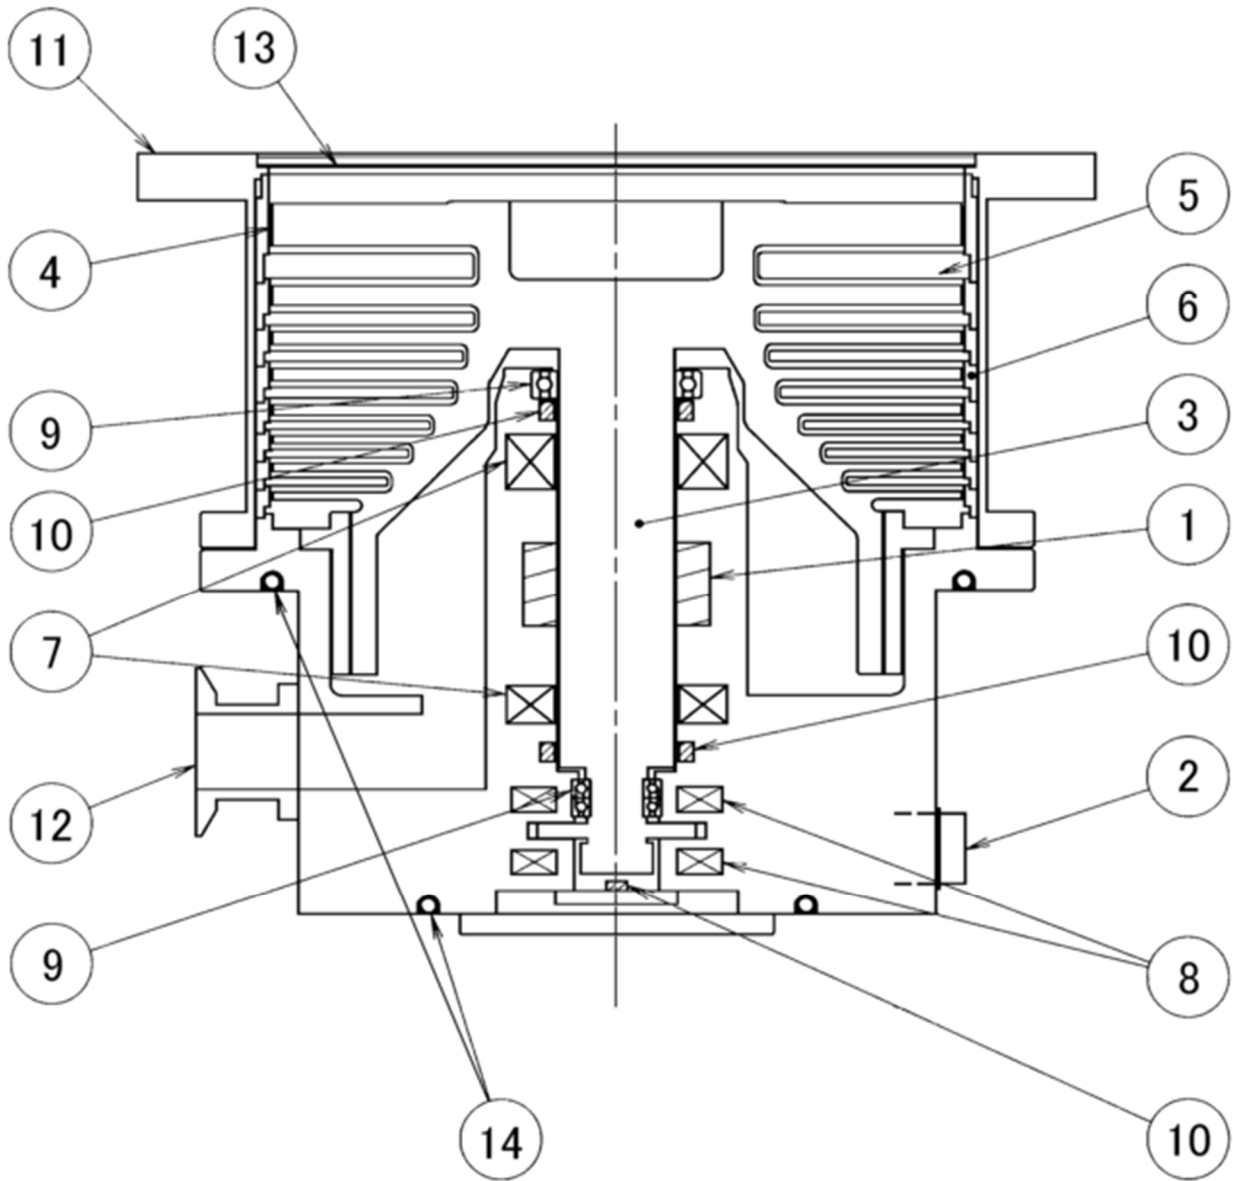
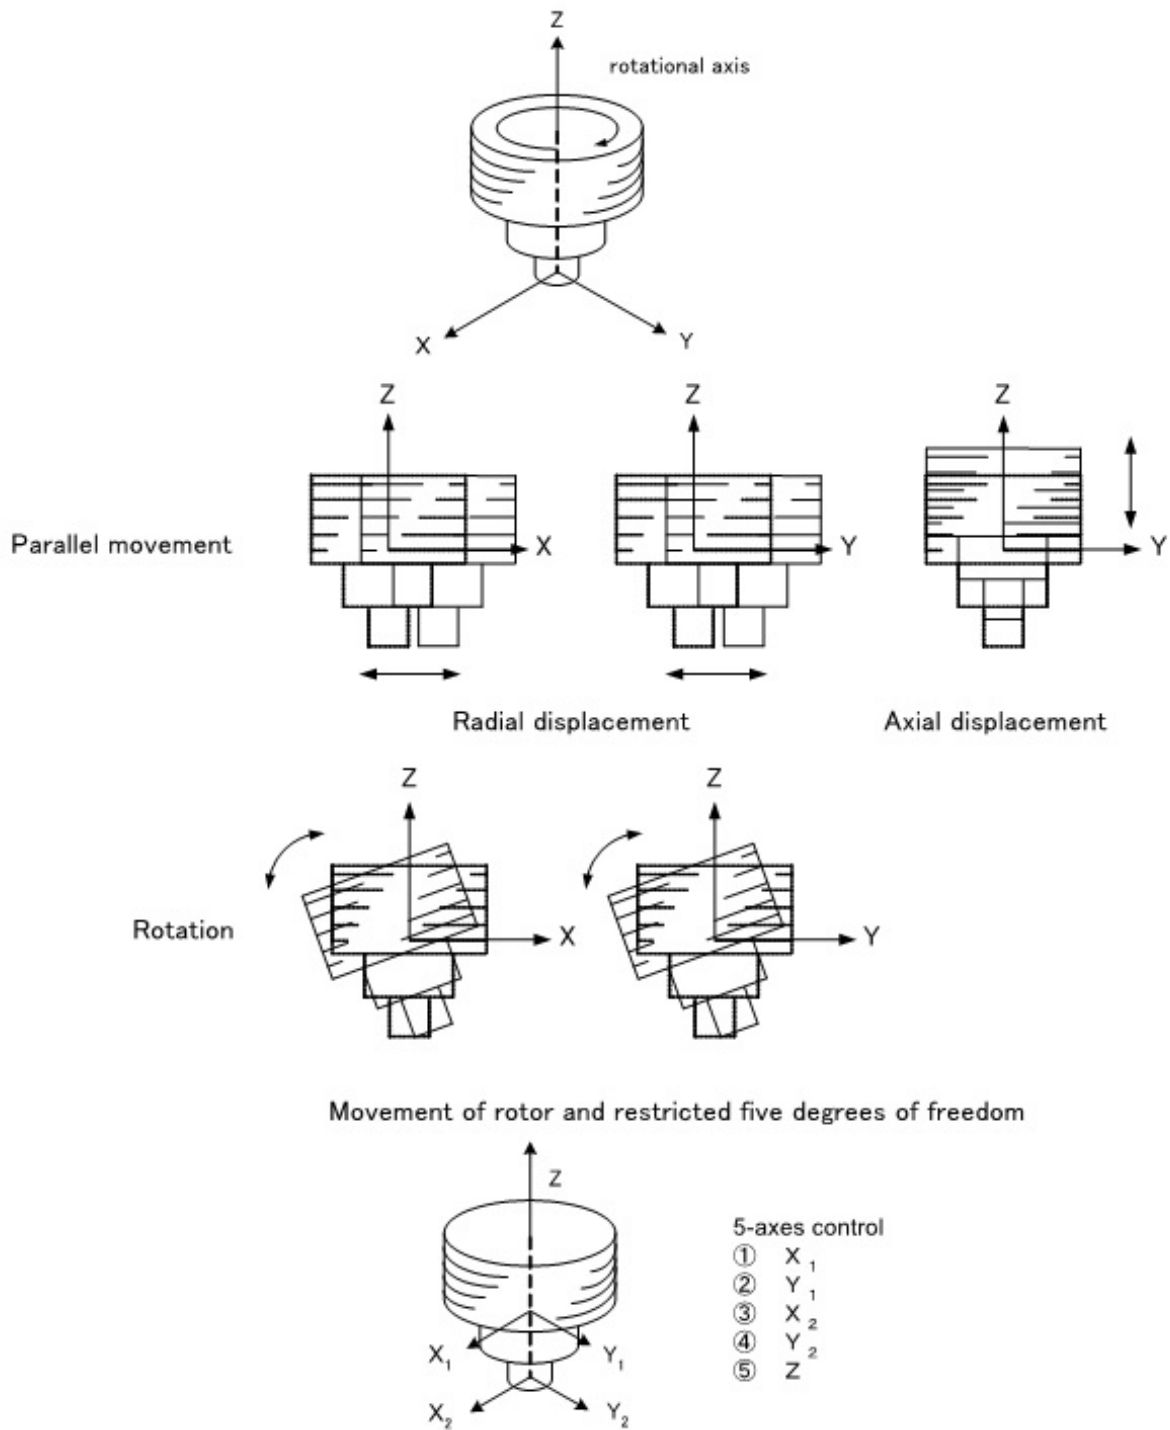

Fig. 3-1 Pump Sectional Drawing
Fig. 3-2 Outline of 5-Axes Control
Fig. 3-1 is a sectional drawing of UTM-MS series magnetic bearing type turbo molecular pump. The built-in high frequency motor (1) is accelerated to the specified revolutions (speed) by the high frequency controller. Rotor blades (4) are fitted onto the drive shaft (3) and the stator blades (5) are arranged in between the rotor blades. A positioning spacer (6) is inserted between the stator blades. The configurations and profiles of the stator blades and rotor blades are designed for high efficiencies in various applications. The upper stages of the rotor blade and stator blade configurations are ideally designed for high gas throughput. The compression ratio of the stator blades and rotor blades becomes higher as the gas molecules converge into the lower stage configurations. The profiles of the stator blades and rotor blades are matched for the desired function. A radial magnetic bearing (7) is used at the top and bottom of the drive shaft. The axial magnetic bearings (8) are used to levitate a disk attached to the drive shaft between the axial magnetic bearings. Each magnetic bearing is provided with a gap sensor (10) to detect the rotor position. Fig. 3-2 illustrates the outline of 5-axes control. The rotor is levitated by the control of these 5-axes allowing rotational freedom.